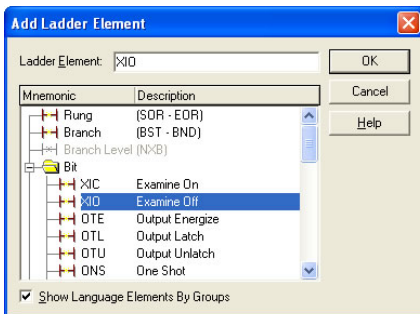

Figure 95: Adding an XIO Element
- Select the “XIO” element in the Bit folder. Refer to Figure 95.